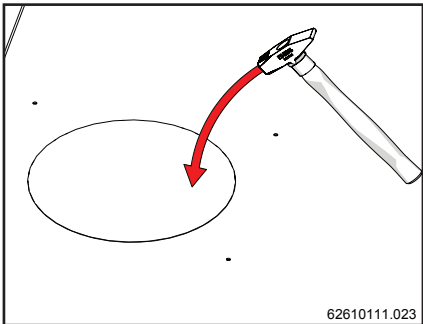
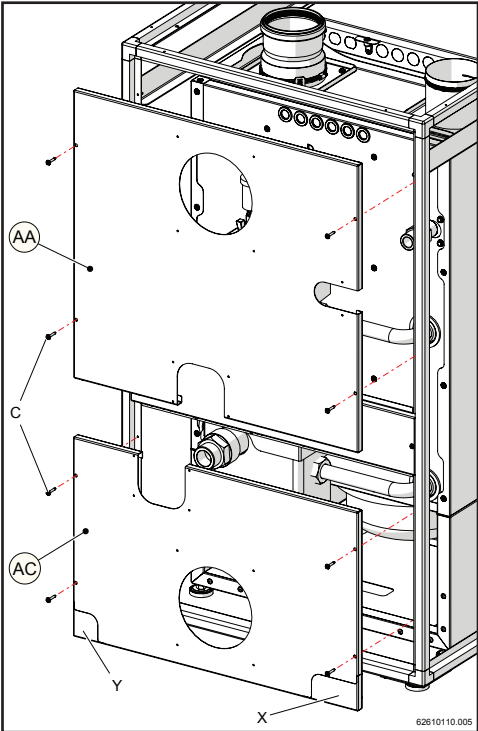

Figure 15-17
Figure 15-19
- 9.- Put on the covers (AA) and (AC) in the direction shown in figure 15-19 and fasten them to the structure with screws "C"; first removing the pre-cut discs present (figures 15-17 and 15-18). It is also possible, depending on the type of electrical and condensate removal system in the place the boiler is installed, to remove if necessary the pre-cut sections "X" and "Y" on the metal sheet (AC) shown in figure 15-19.